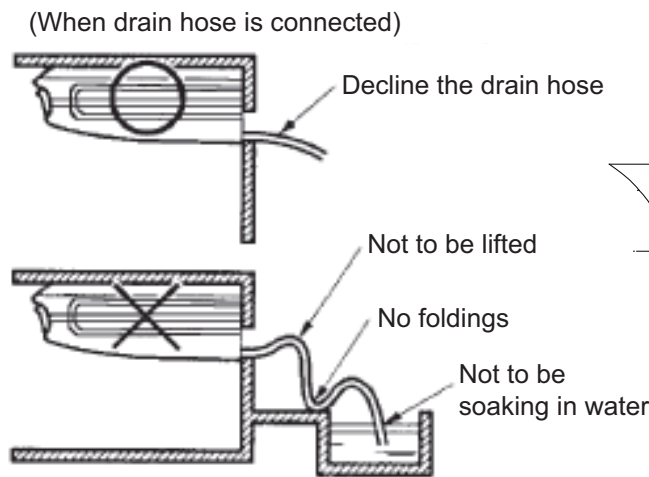
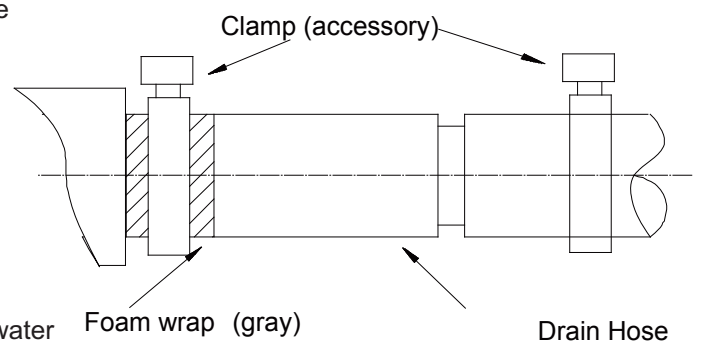

Fig.10
Fig.11
- * The drainpipe should be as short as possible and slope downward at a gradient of at least 1/100 to prevent air pockets. (Refer to Fig.10)
- * Use the attached drain hose ④ and clamp ⑤ .
- * Insert the drain hose completely into the drain socket. Tighten the clamp within the range of gray tape until the screw head is less than 0.2 inches (4 mm) from the hose. (Refer to Fig.11, Fig.12)